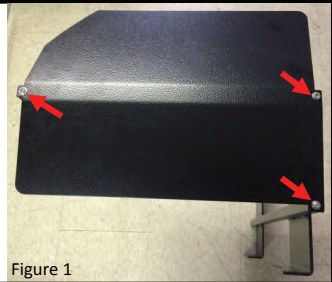

Figure 1
-Using 3x (#3 and #5), attach (#10) to the bottom of (#13) as seen in Figure 1.